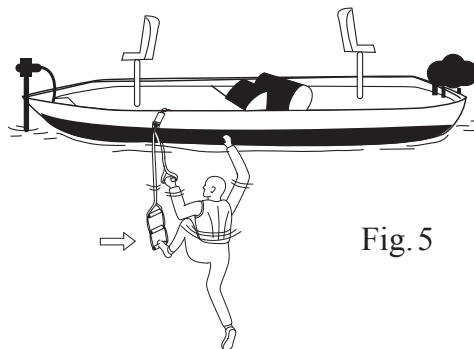

Fig. 5
3. With one hand, reach up and grab the side of the vessel. With the other hand, *slowly* pull on the “HANDLE” at bit at a time to shorten the “STEP” length until one foot can be placed in the bottom “STEP”. (See FIG. 5)